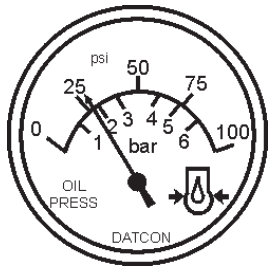

Figure 48. Oil Pressure Gauge
8. The engine oil pressure gauge (Figure 48) will indicate the oil pressure of the engine. Under normal operating conditions the oil pressure is approximately 28~71 psi (193~490 kPa).